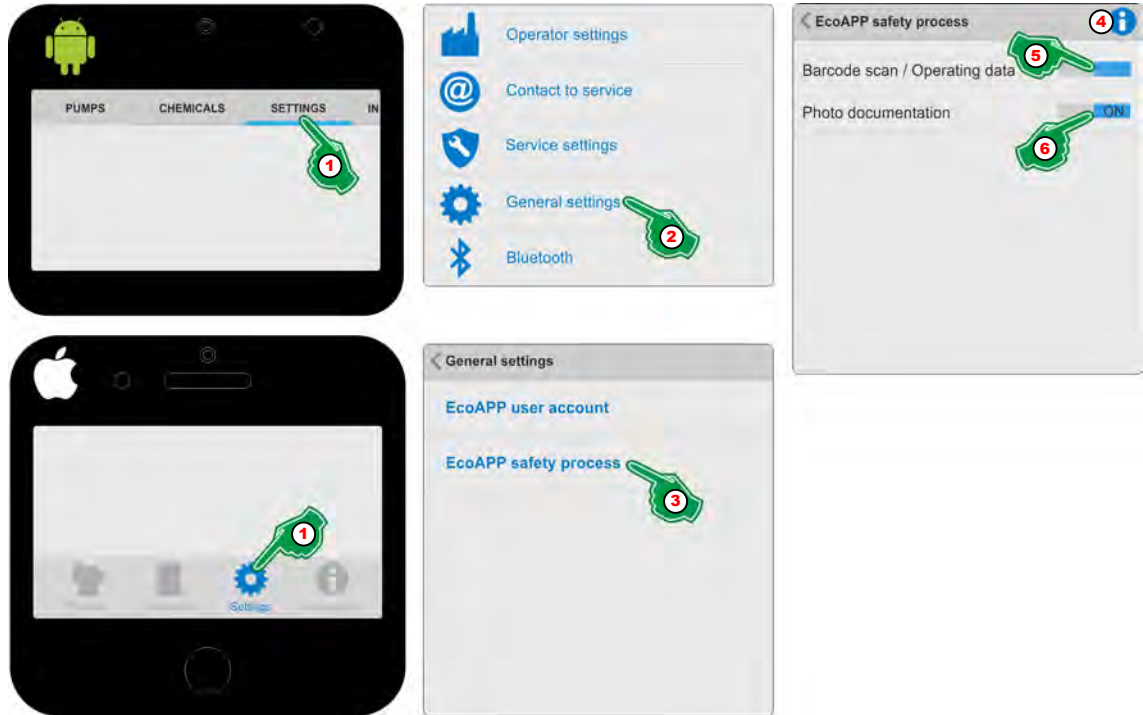

Fig. 16: Setting the safety process
1. ➤ Select [Settings] (Fig. 16, Pos. 1).
2. ➤ Select [General settings] ⚙️ (Fig. 16, Pos. 2).
3. ➤ Select [EcoAPP safety process] (Fig. 16, Pos. 3).
4. ➤ With the selection of the [Info] ⓘ (Fig. 16, Pos. 4), the symbol display will be:
5. ➤ Choose the 'photo documentation,' (Fig. 16, Pos. 5) to **ON** .
6. ➤ Choose the 'Barcode Scan / Operating data' (Fig. 16, Pos. 6) to **ON** .